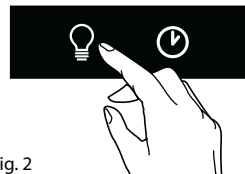

Fig. 2
1. Whilst the appliance is off, touch the light key on the extractor for approximately five seconds until the indicator light begins to flash, as shown in figure 2.